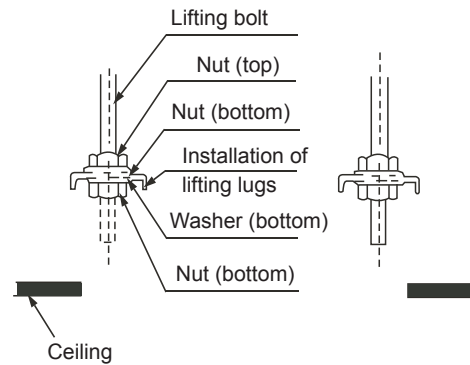

Figure 3.5
- (1) When mounting the lifting lugs of the indoor unit on the lifting bolts, slot the nut washers of the lifting bolts in the oblong holes of the lifting lugs. The upper and lower nuts and the washers are shown in Figure 3.5.
- (2) Adjust the height of the indoor unit.